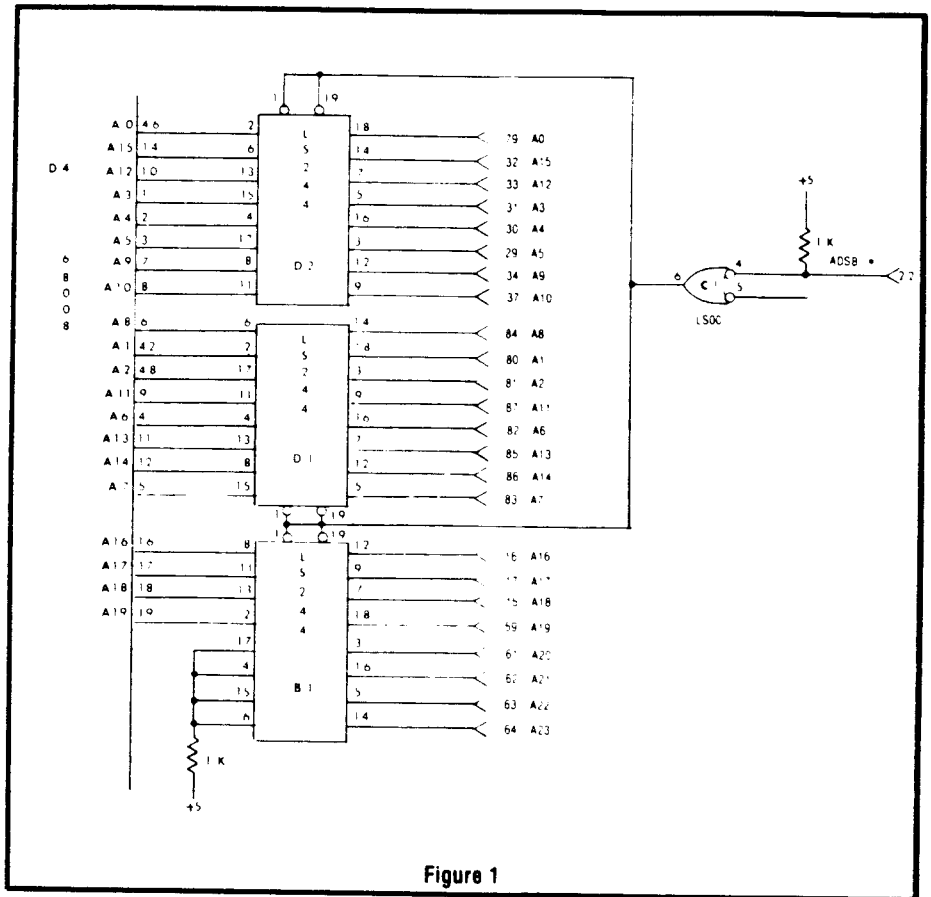

Figure 1
**Address lines A0 to A23.** The S-100 bus has 24 address lines but the 68008 has only 20 address lines. First A0 to A19 of the 68008 are passed through LS244's to drive S-100 address lines A0 to A19. Lines A20 to A23 of the S-100 bus are forced high by tying the inputs of half of an LS244 high and attaching the outputs to lines A20 to A23. Since A20 to A23 are always high, no further mention of them will be made. All address buffers are enabled unless ADSB is asserted. Detailed schematics for the signals discussed in this paragraph are given in Figure 1.